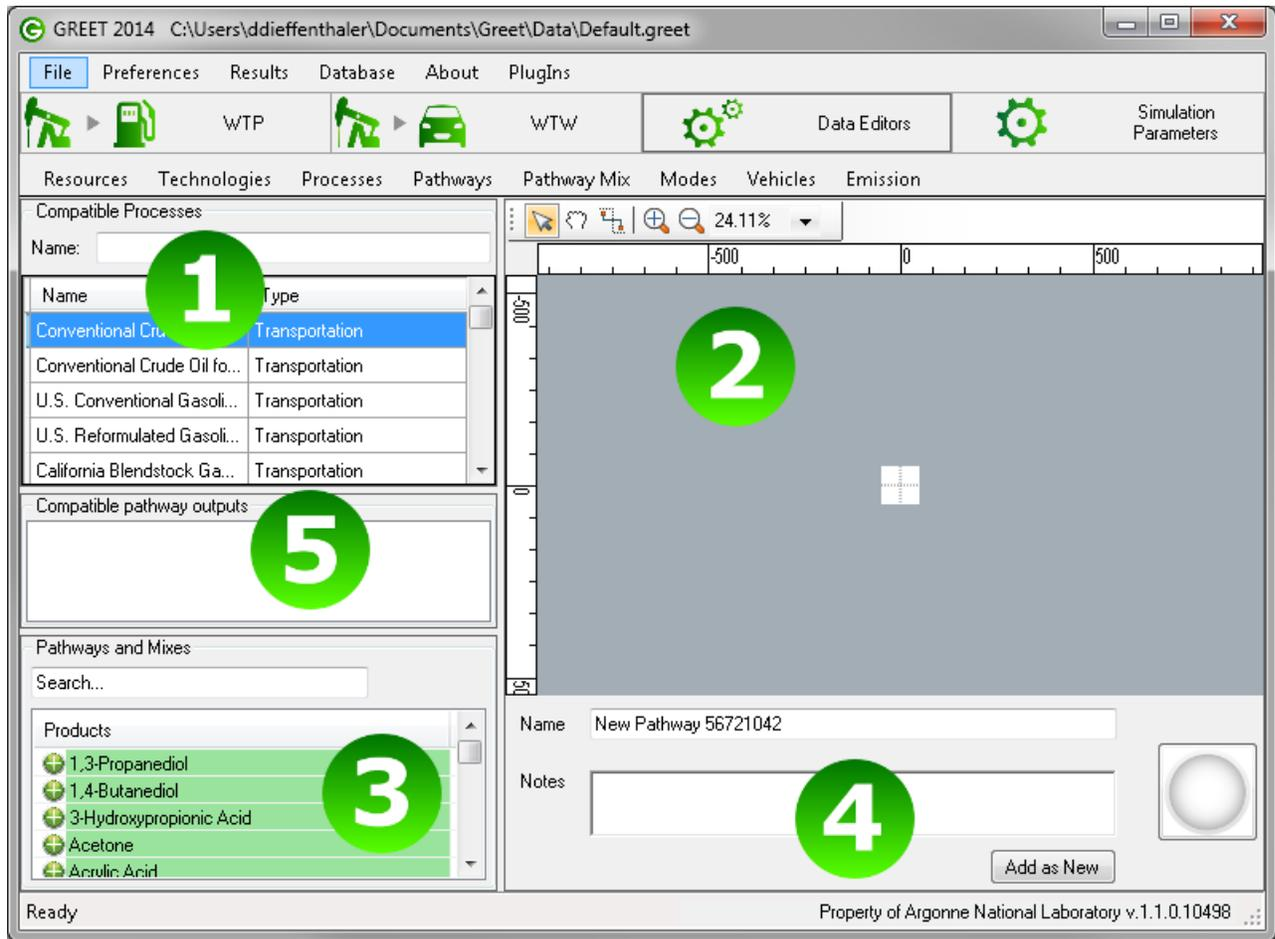

Figure 57: Creating a New Pathway
**Adding a new pathway:** To create a new pathway, open the **Data Editors** main pane, then open the **Pathway** menu and select **Add Pathway**. When the pathway editor opens, you will see the editor as shown in Figure 57.
The pathway editor is designed in 5 main zones. See Figure 57